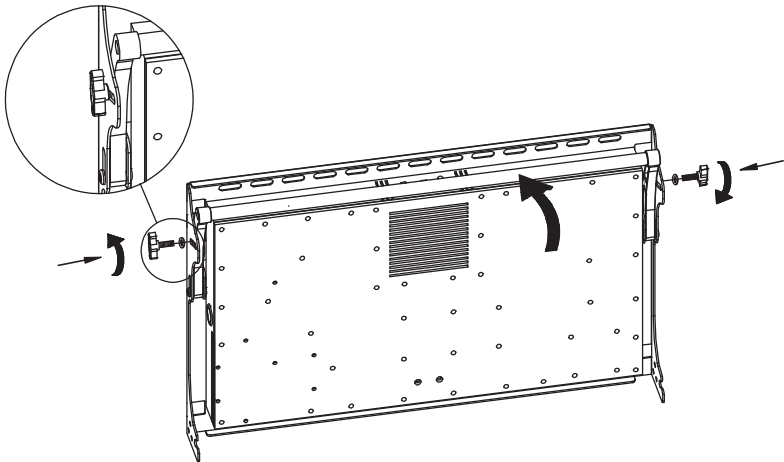

Figure 9 - Replace Top Pole
Screw the upper pole back into place using the handles (D) (Figure 9).